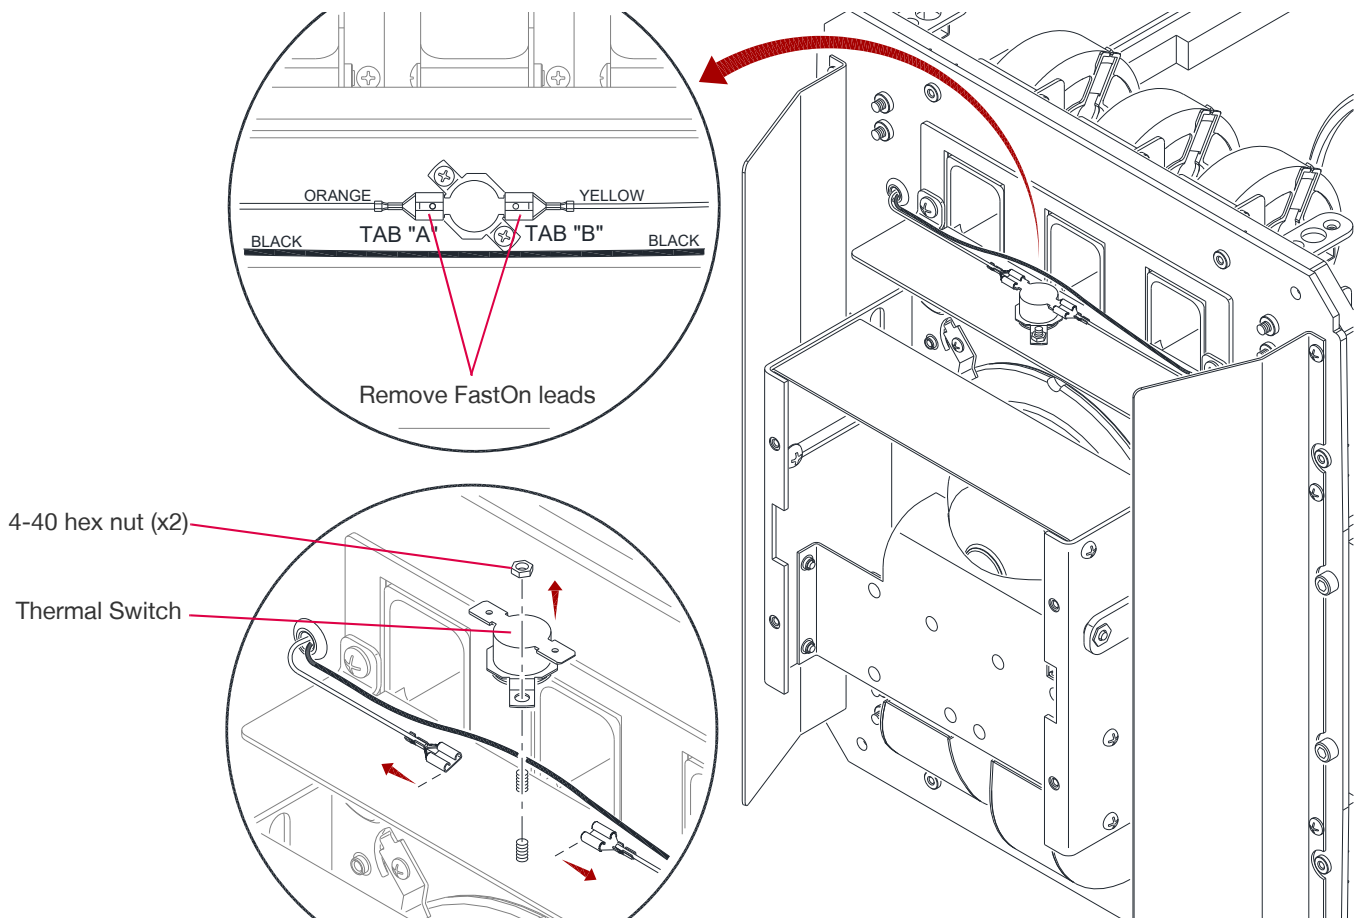

Figure 3-40: Replacing Lamp Thermal Switch
- Step 6. At the Thermal Switch, remove the two FastOn connectors. **(Figure 3-40)**
- Step 7. Remove the two 4-40 hex nuts from the Thermal Switch to remove it. **(Figure 3-40)**